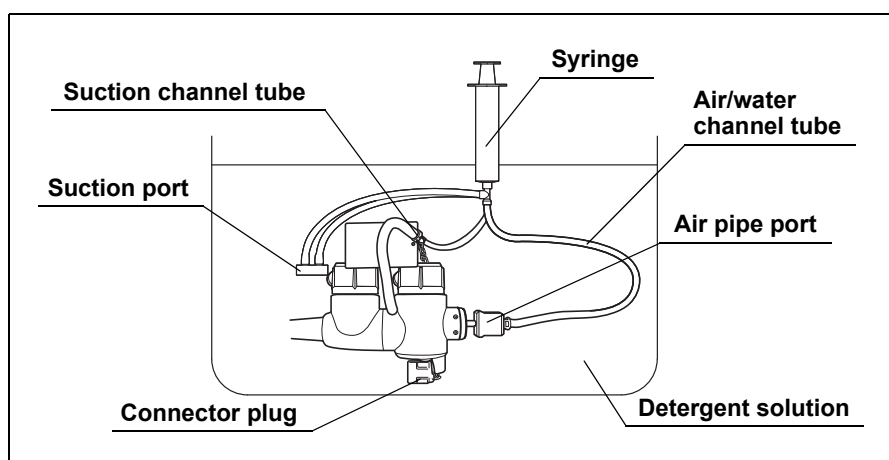

Figure 7.36
3. Attach the injection tube's connector plug to the air and water supply connectors on the endoscope connector (see Figures 7.36 and 7.37).
4. Attach the injection tube's air pipe port to the air pipe on the endoscope connector (see Figures 7.36 and 7.37).
5. Attach the injection tube's suction channel tube to the suction connector on the endoscope connector (see Figures 7.36 and 7.37).